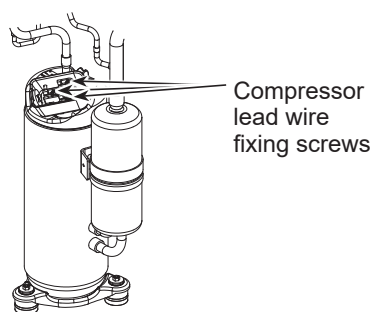

Figure 5
- The welded part can be removed easily after removing the side panel (R).
- See Figure 5 for the cut-off points on the compressor inlet and outlet pipes.